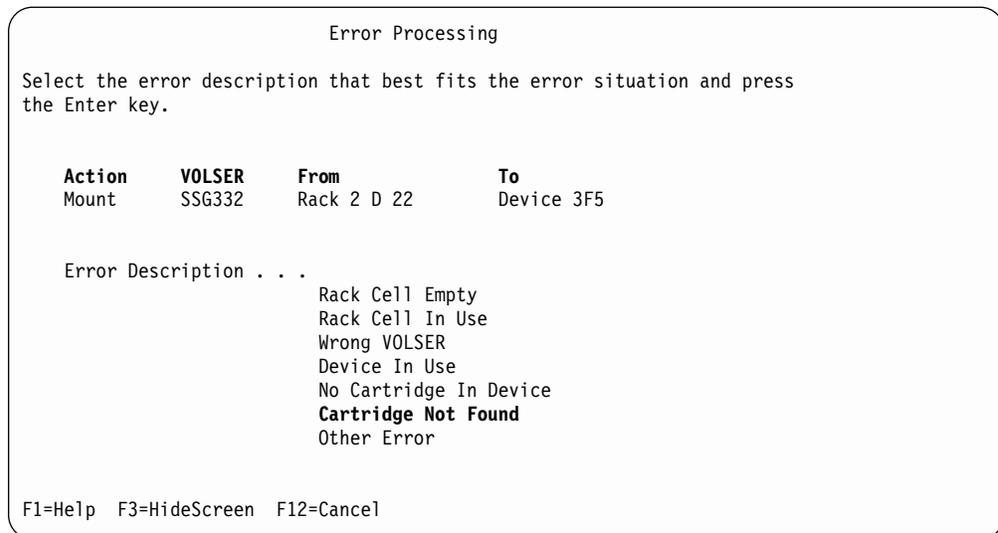

Figure 155. Manual Mode Error Processing Window
3. Select the error description that best fits the problem. Use the up arrow (↑) or down arrow (↓) key in the Manual Mode Error Processing window (Figure 155 on page 254) to highlight the error description.